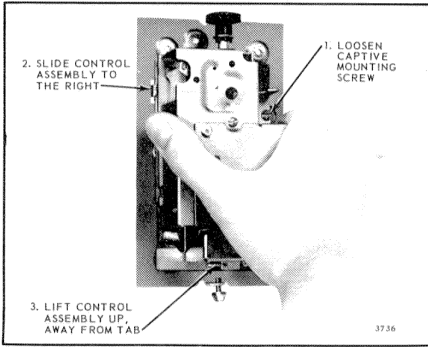

Fig. 2. Mounting the control on the backplate.
2. Remove the mounting plate from the control assembly as shown in Fig. 2.